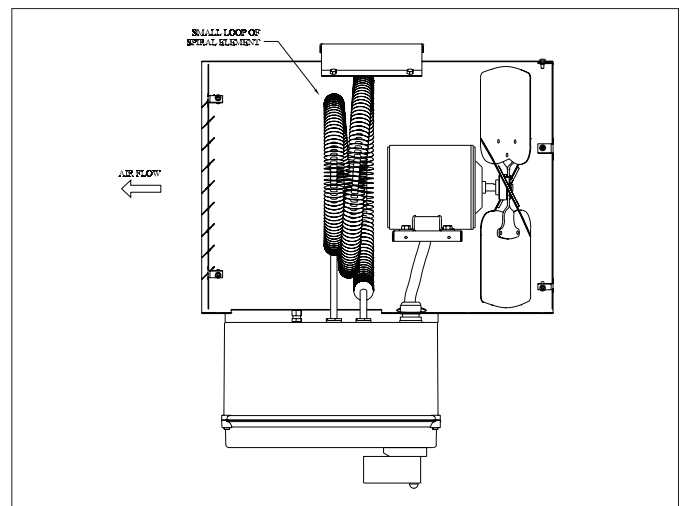

Figure 6
1. To operate heater, ensure power supply is properly connected as specified in the wiring schematic (see Figure 6, page 8).
3. Install factory-supplied replacement elements such that the smallest loop of the spiral element is closest to the discharge end of the heater (see Figure 6).